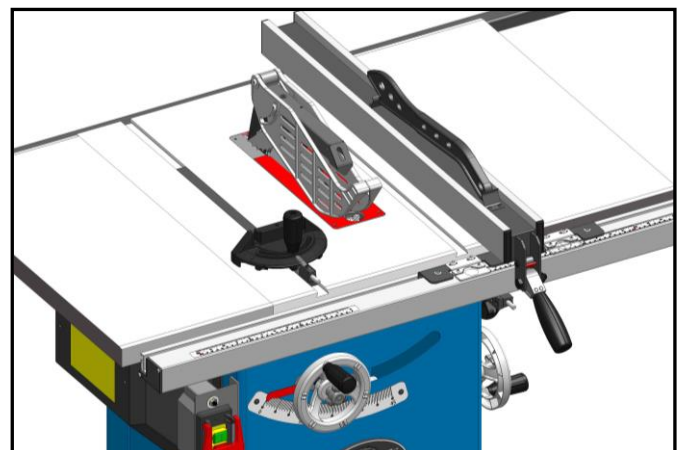
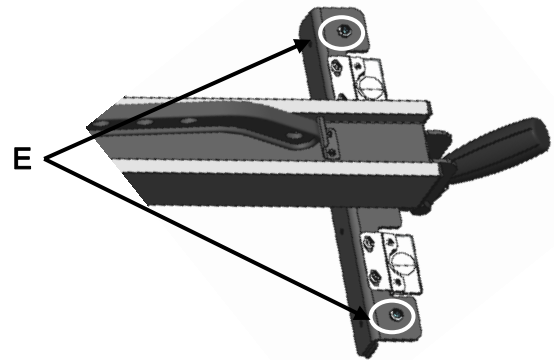

Fig. 13
Fig. 15
Place a machinist square on the table against the fence and look for a gap between the square and the fence (bottom and top) or the table. If needed, adjust either of the two plastic set screws on top of the fence "T" portion (Fig. 15) to tilt the fence slightly and square it to the table. (Fig. 13)
3. If needed, to level the fence, adjust the plastic set screws E equally, thereby raising or lowering the front of the fence an equal amount on either side so as not to undo the previous perpendicular adjustment Fig. 15